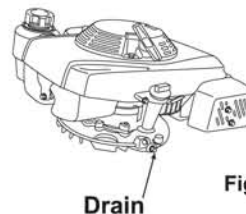

Fig. 36
2. Extract the fuel from the fuel tank and the carburetor. (See Fig. 36)